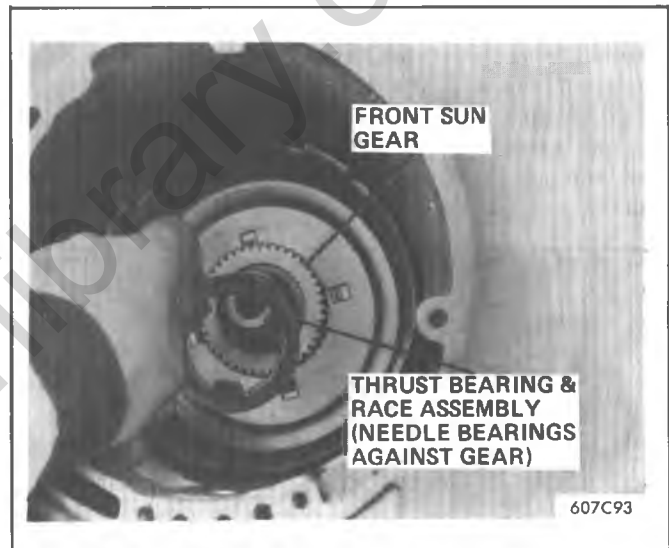

Figure 7A1-100 Installing Thrust Bearing Assembly Against Front Sun Gear
7. Install front internal gear and thrust washer. (Figure 7A1-103).